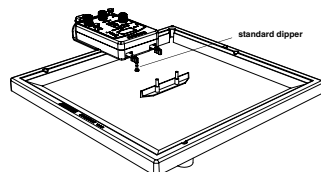

Figure 5.2: Position of Barrier
- Arrange the long barrier near the middle of the tank so that the midpoint of the barrier is aligned with the ripple arm that holds the standard dipper. Adjust the barrier so it is parallel to the front of the ripple generator as in Figure 5.2.